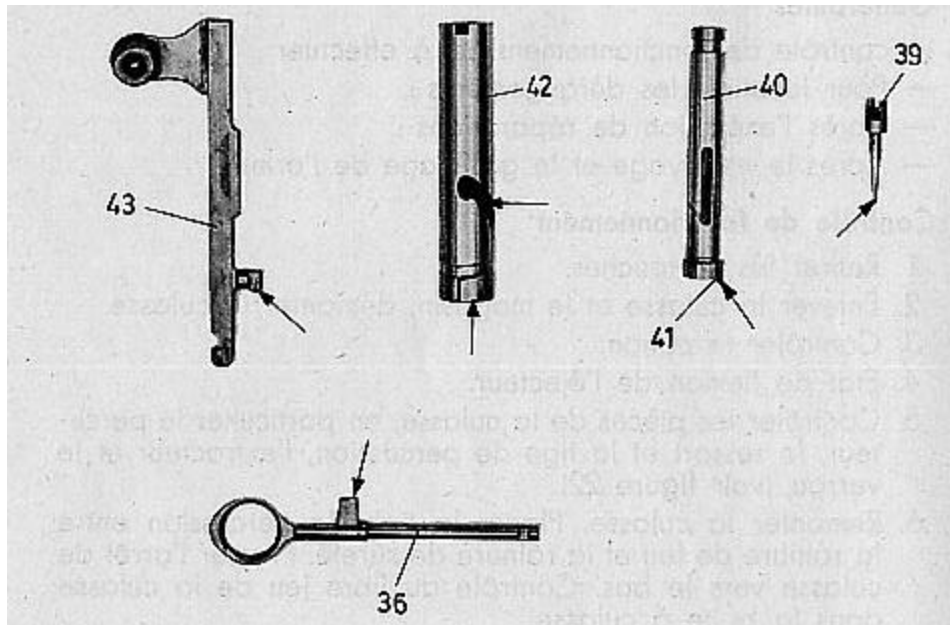

Figure 22
5. Inspect bolt part, specifically the firing pin, the firing pin spring, and the Cocking piece, the extractor and the locking plate. (See figure 22)